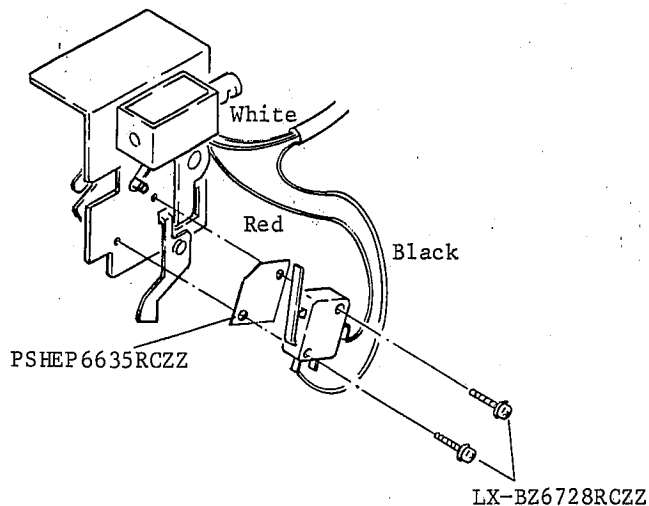

Fig. 9-11
- 9) Install the microswitch on the lock unit as shown in the Fig. 9-11.